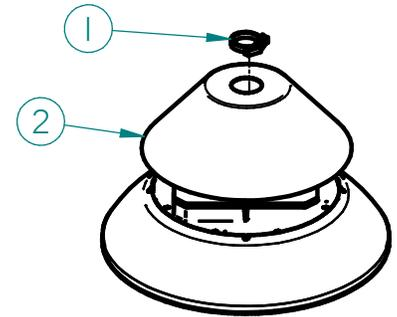
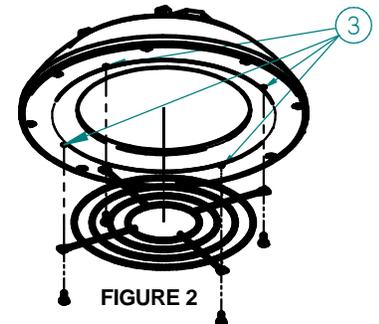

FIGURE 1
FIGURE 2
- First, slide the pole clamp (Item 1, Fig. 1) around the pendant, then slide the bird shroud (Item 2, Fig. 2) over the pendant. After attaching the fixture to the pendant, push the shroud flush against the housing and tighten the clamp to hold the shroud in place.
- Drill four (4) holes at $\frac{3}{8}$ inch depth at pilot hole locations (Item 3, Fig. 2) Use tape on the drill bit to indicate when $\frac{3}{8}$ inch depth is reached. **Note:** do not exceed $\frac{3}{8}$ inch hole depth and ensure that drill bit is perpendicular to mounting surface.